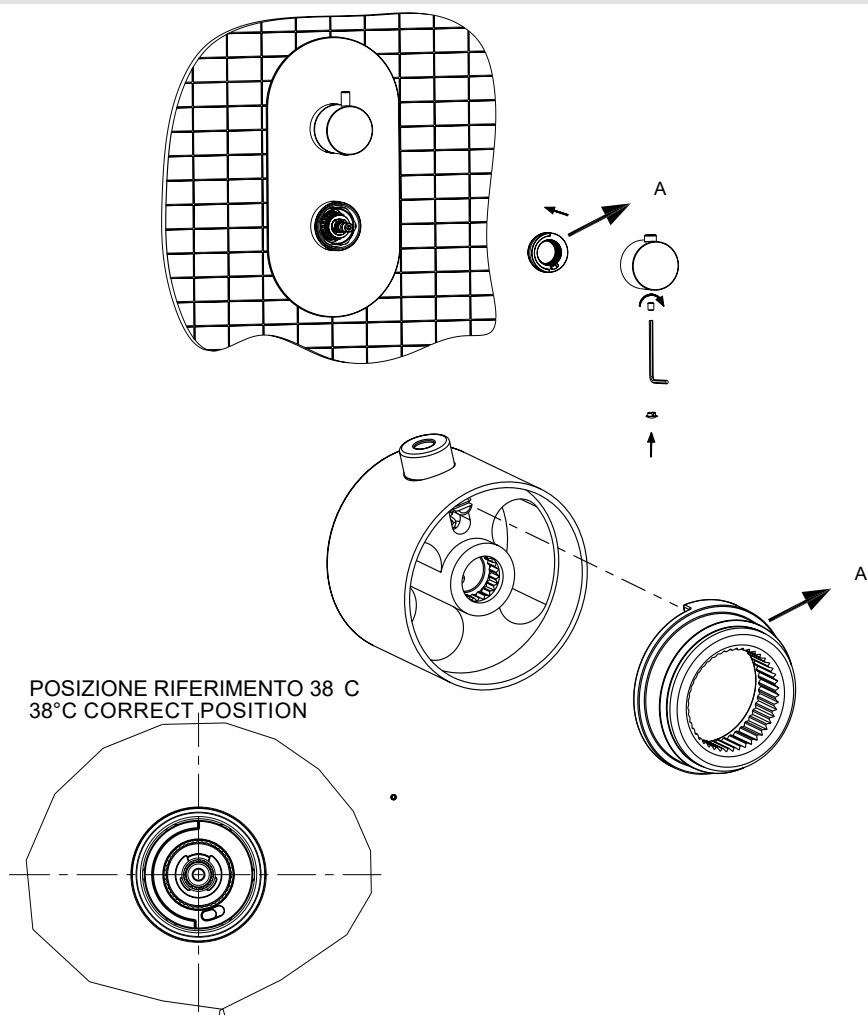

FIG 1
ATTENZIONE: POSIZIONARE IN MODO CORRETTO L'ANELLO DI BLOCCO DI 38 °C (A) IN MODO DA AVERE UNA CORRETTA REGOLAZIONE DELLA TEMPERATURA (VEDI FIG 1)
ATTENTION: PLACE THE 38 °C (A) IN THE RIGHT POSITION AS SHOWN, IN ORDER TO HAVE A CORRECT REGULATION OF TEMPERATURE (SEE FIG 1)